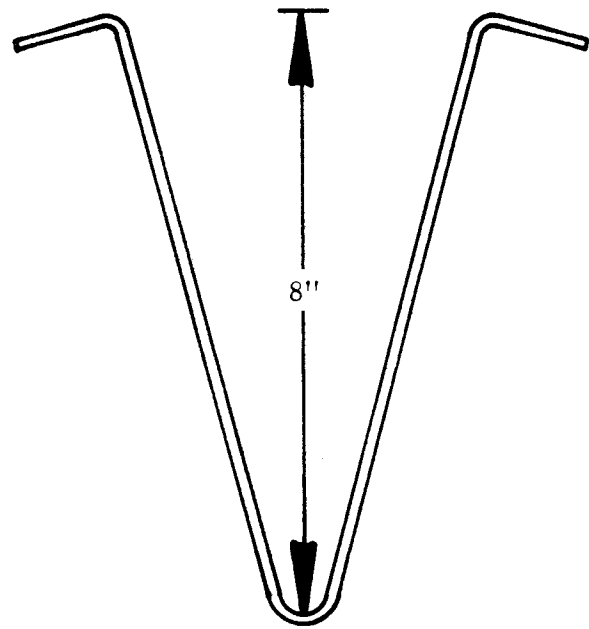

Figure G-7. Brake Assembly Tool
3. Bend a coat hanger or other stiff wire as shown in Figure G-7. Insert the tips of the hanger through the shaft opening in the bottom housing until the tips of the hanger extend above the stack of discs. Spread the tips and pull the stack of discs down into the bottom housing. This will keep the springs and stationary discs aligned on the torque pins.